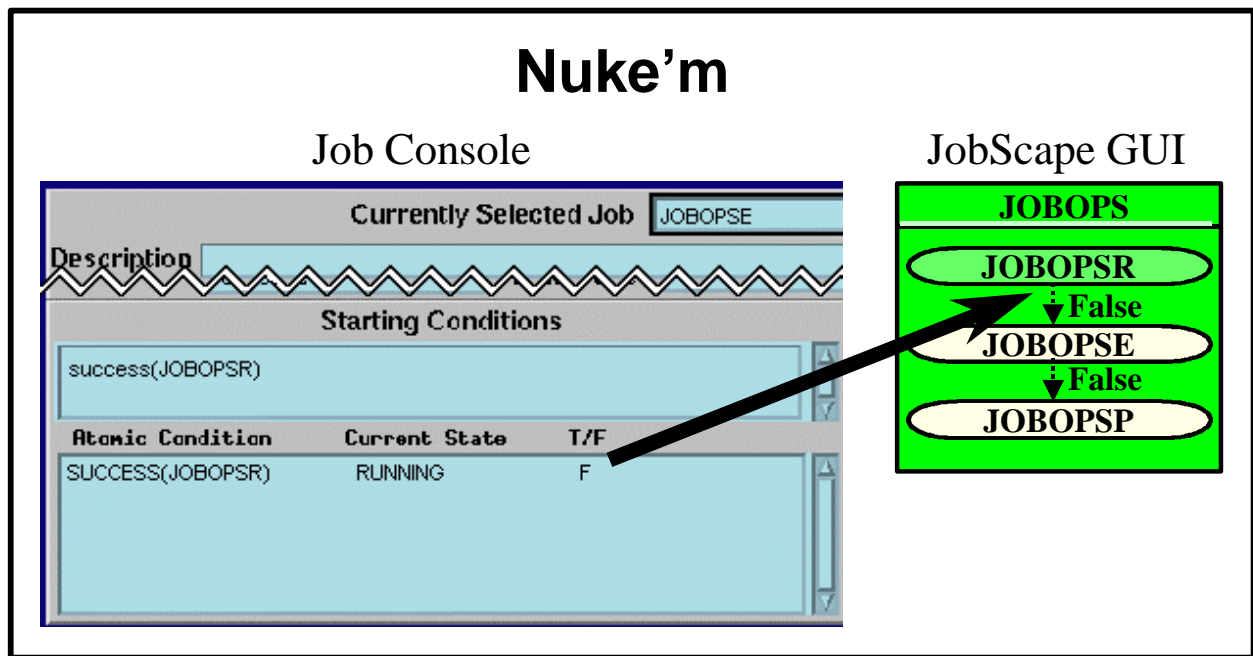

Figure 69. Atomic Conditions and Upstream Dependencies
- Figure 69 shows how atomic conditions relate to job dependencies as displayed using JobScope. (In this case JOBOPSR is an atomic condition for JOBOPSE.)